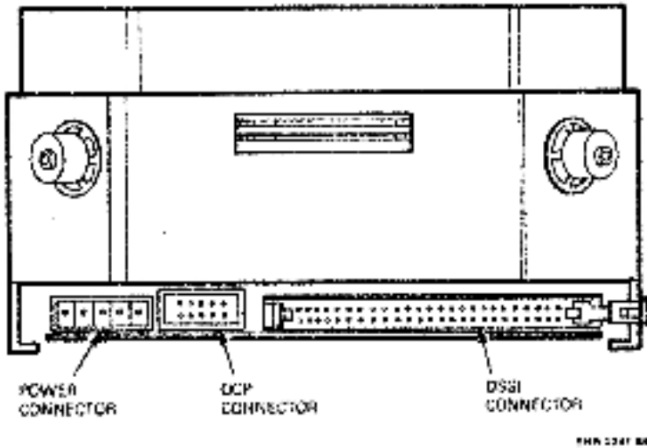

Figure 4-6: DSSI Bus, Power, and OCP Connectors
3. Connect the power cable to the power connector on the ISE (see Figure 4-6).
3. The shipping brackets inside the mass storage area(s) should already have been released during installation of the unit. If they were not released, make sure the four orange plain-slotted screws are loosened to release the shipping brackets. Retighten the screws against the frame after the brackets are released (see Figure 4-6).